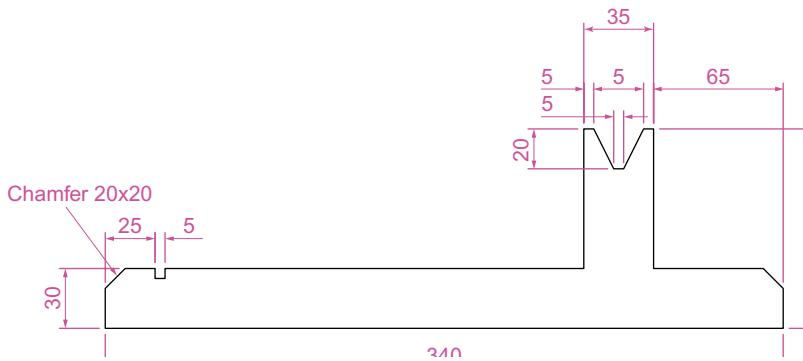
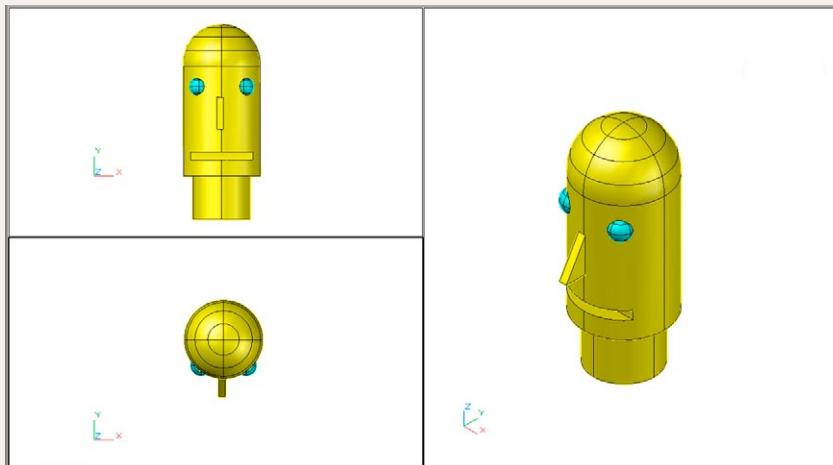

Fig. 13.12 Third example – outline for solid of revolution
Fig. 13.14 Exercise 1
3. In the **Front** viewport (top left-hand), construct a pline outline to the dimensions in Fig. 13.12.
1. Using the **Cylinder**, **Box**, **Sphere**, **Wedge** and **Fillet** tools, together with the **Union** and **Subtract** tools and working to any sizes thought suitable, construct the 'head' as shown in the **Three: Right** viewport as shown in Fig. 13.12 (Fig. 13.14).